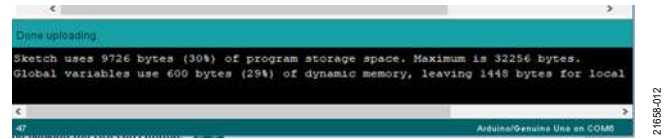

Figure 13. Arduino IDE Upload Success
4. When the uploading process is completed, a message at the bottom of the IDE displays the message in Figure 13.
To select the remote ADT7420, close the serial monitor and change the device address to 0x49 in the sketch example (see Figure 15). Verify and upload the sketch to the Arduino board, then wait until the code finishes uploading and the message in Figure 13 is shown. Next, open the serial monitor.